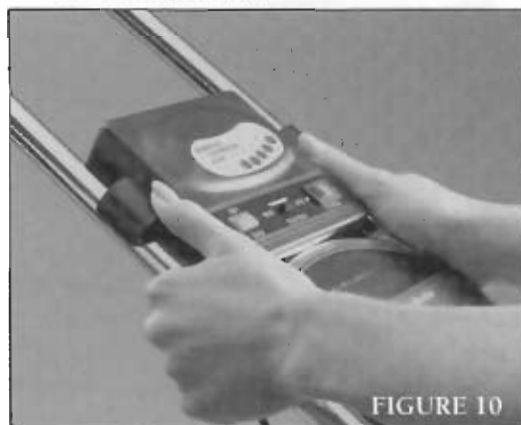

FIGURE 10
4. Snap the console bracket onto the upper-body exerciser, placing it above the electronics (Figure 10).